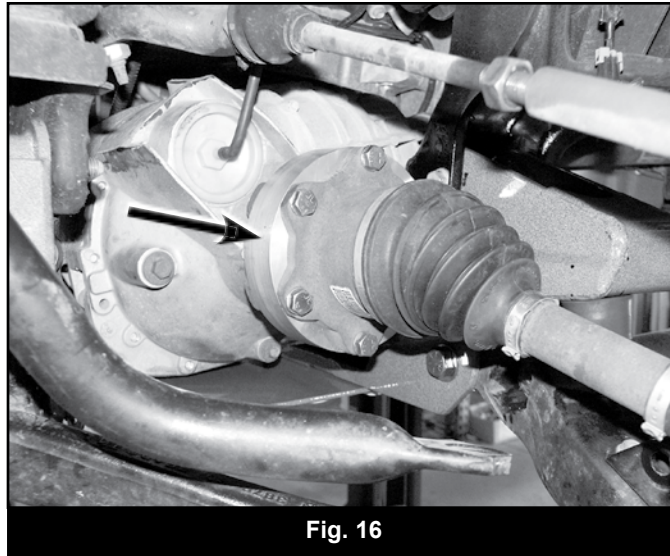

Fig. 16
50. Install the provided CV shaft spacers (01183) between the CV shaft and the differential. Fasten the CV shaft and spacers to the differential with 10mm x 70mm bolts and 10mm flat washers from bolt pack #540 (Fig 16). Use loctite on the bolt threads and torque them to 58 ft-lbs in a crossing pattern.